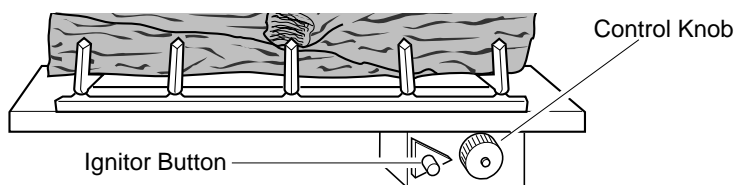

Figure 26 - Control Knob and Ignitor Button Location
4. Wait five (5) minutes to clear out any gas. Then smell for gas, including near the floor. If you smell gas, STOP! Follow "B" in the safety information above. If you don't smell gas, go to the next step.
5. Turn control knob counterclockwise  to the PILOT position. Press in control knob for five (5) seconds (see Figure 26, above).